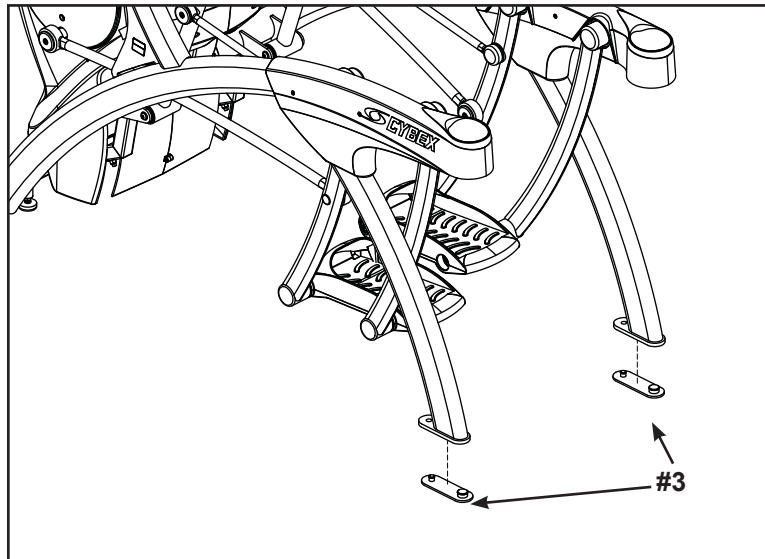

Figure 14
- A. Have one person lift the unit while a second person places a foot pad (#3) under each of the two back feet. See Figure 14.